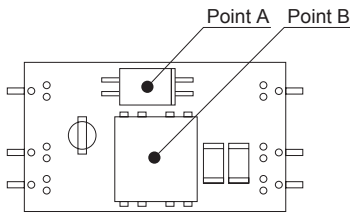

Fig.8.7 Temperature Measuring Points in the case of Forced Air Cooling
(3) Temperature Measuring Points in the case of Forced Air Cooling (1m/s)
① SU3
■ In the case of forced air cooling, please have sufficient ventilation to keep the temperature of point A in Fig.8.7 at 115°C or below and that of Point B at 120°C or below. Please also make sure that the ambient temperature does not exceed 85°C.